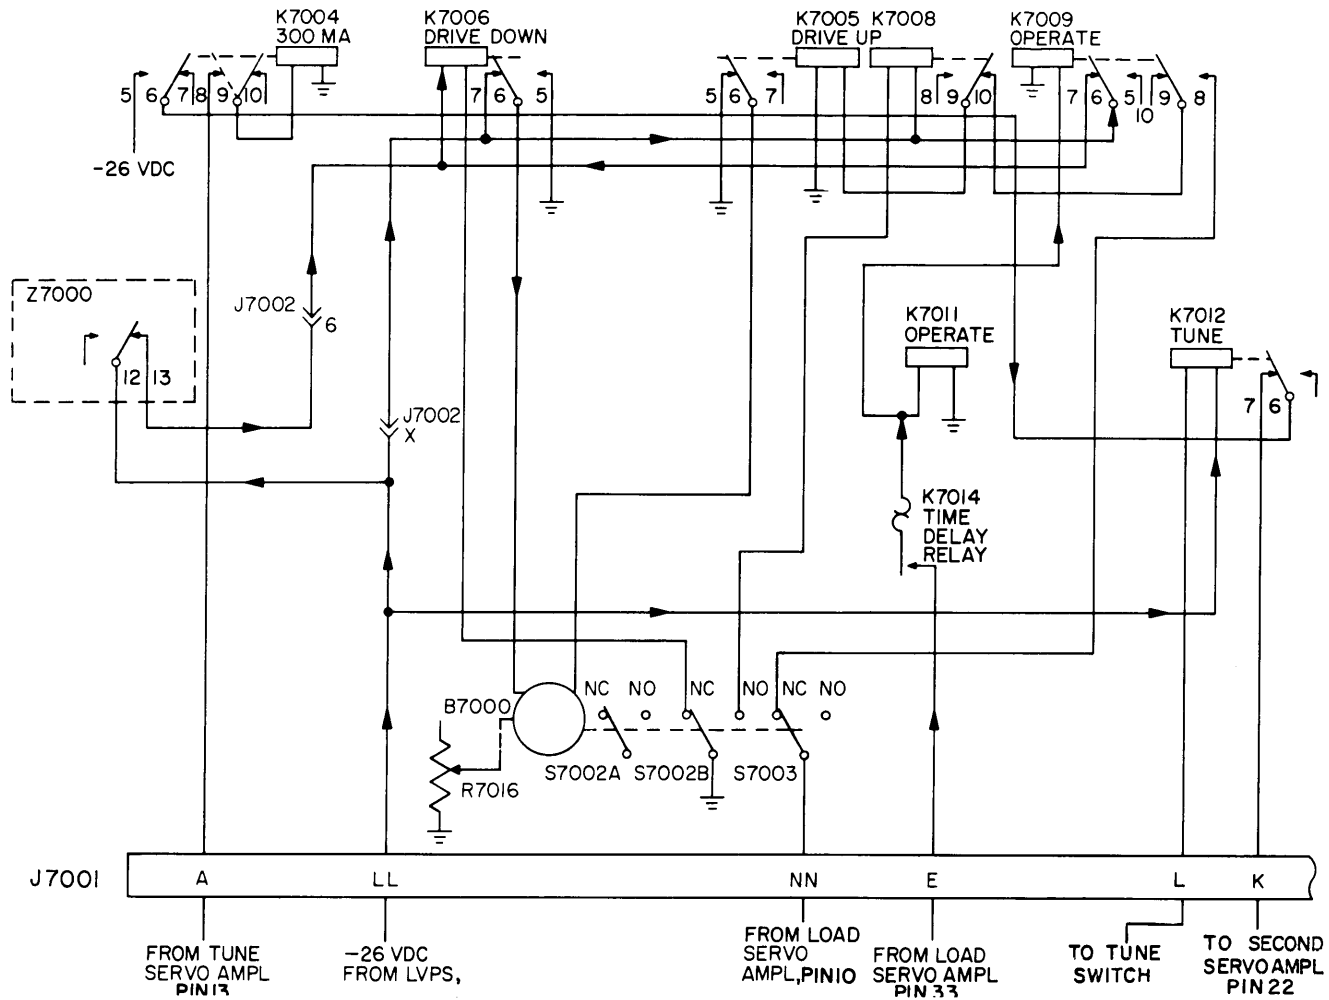

Figure 4-17. Simplified Schematic of Drive Down Condition
(2) DRIVE DOWN (refer to figure 4-17) - The PALA-2.5K will go into the operate mode after the PA and the antenna output circuits are at resonance. When resonance is reached, a signal from the load servo amplifier is routed to pin E of J7001 in the SWCA. Time delay relay K7014 interrupts the signal for approximately six seconds, before allowing it to be applied to the operate coils of K7011 and K7009. After the six second time delay relays K7011 and K7009, go to the operate condition. The -26 vdc supply voltage is then directed through the following path: the relay contacts of K7009, to the coil of the drive down relay K7006, the -26 vdc is also routed through